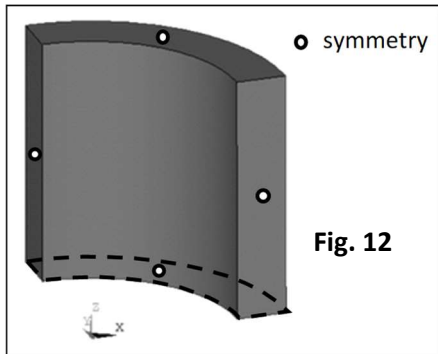

Fig. 12
17. Apply structural symmetry boundary conditions on 4 cross-sectional areas (*Solution > Define Loads > Apply > Structural > Displacement > Symmetry B.C. > On Areas*) (Fig. 12)